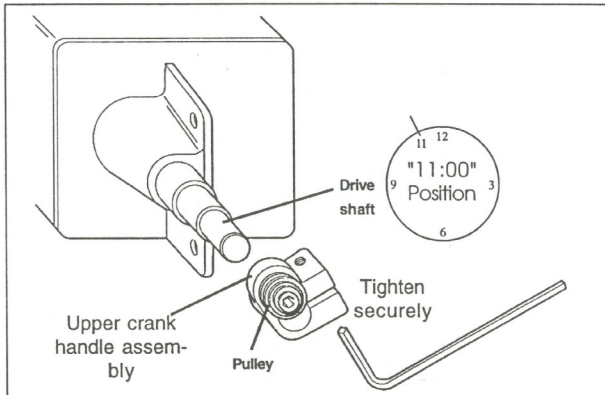

Figure 2 — Attach Upper crank handle assembly in "11:00" position.
- 8) Slide upper crank handle assembly onto drive shaft of gearbox. Position pulley at its point of highest stroke (approximately "11:00"). Tighten crank handle securely with button head screw (see figure 2).